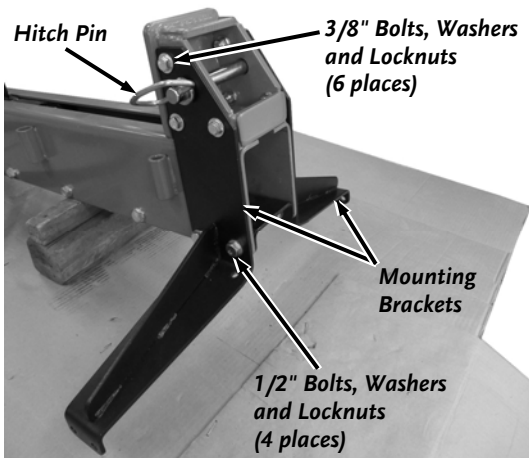

Figure 4
2. Position the two Mounting Brackets and insert the large Hitch Pin to locate them (**Figure 4**).